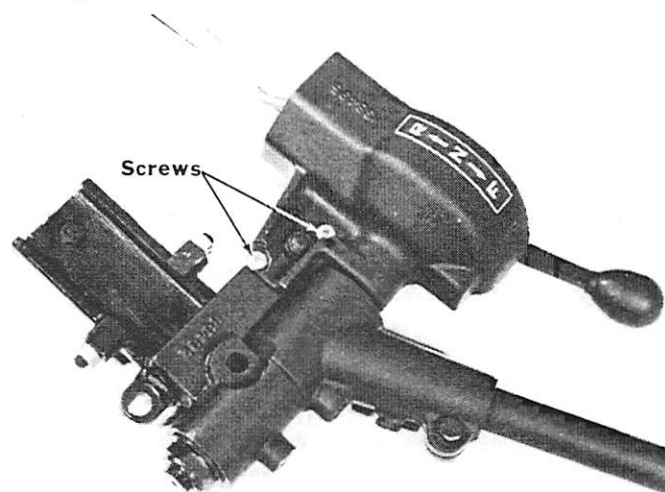

Figure 4. Cover Installed
3. Place cover in position on steering handle bracket and fasten cover to bracket with 2 self-tapping screws. (Figure 4)